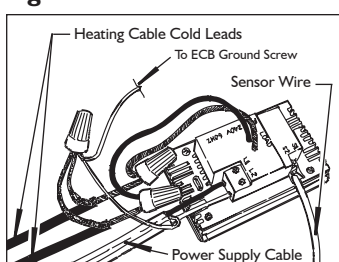

Fig. 5
- Prepare each heating cable / cold lead for connection / splicing and connect per Figure 5 or Figure 6, as applicable. Use **Screwdriver** for connection to the Power Supply cables and the sensor wire connections.